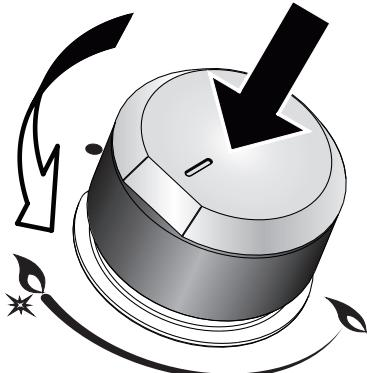

Fig. 2.2a
1. Press in the corresponding knob and turn counter-clockwise (fig. 2.2a or 2.2b) to the full flame position marked by the “” or “